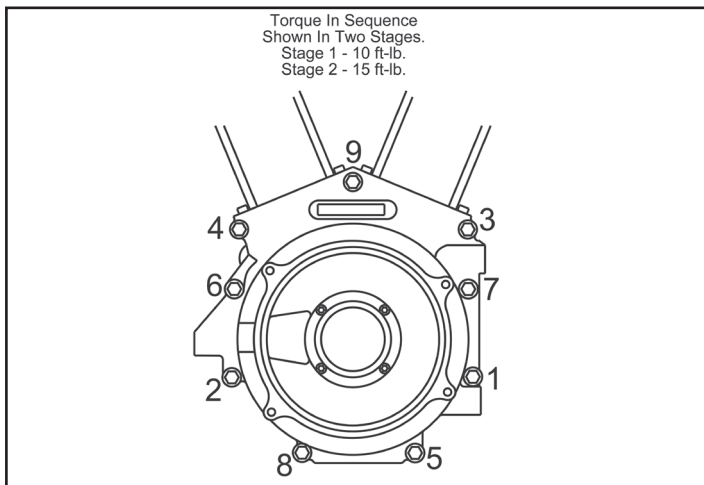

Figure 1
- When assembling crankcases that have been bored to accept big bore cylinders, use S&S torque specifications for crankcase bolts. See Figure 1.
- A. Bolt crankcases together as an assembly. Use special S&S center case bolt with special washers installed in the order shown in **Picture 5**. Torque case bolts in two stages to 10 ft-lb. and finally 15 ft-lb. in the sequence shown in **Figure 1**.
- B. Bolt crankcases together as in assembly. Use special S&S center case bolt with special washers installed in the order shown. Torque case bolts in two stages to 10 ft-lb. and finally 15 ft-lb. in the sequence shown in **Figure 1**.